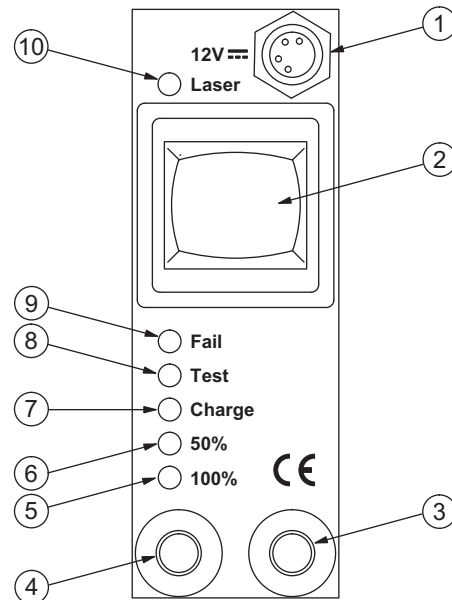

Figure A.2: View form above of the battery charger
The view from above of the battery charger with its control elements is shown in ABBILDUNG A.2.
- The battery charger can also be operated using the motor vehicle supply cable PDV-DC (refer to FIGURE A.2). To do so, instead of plugging the plug-in power supply into the 12 V socket on top of the battery charger, plug in the motor vehicle supply cable and plug it into a 12 V on-board plug socket or into a motor vehicle cigarette lighter. The battery is charged in the same way as with mains operation.